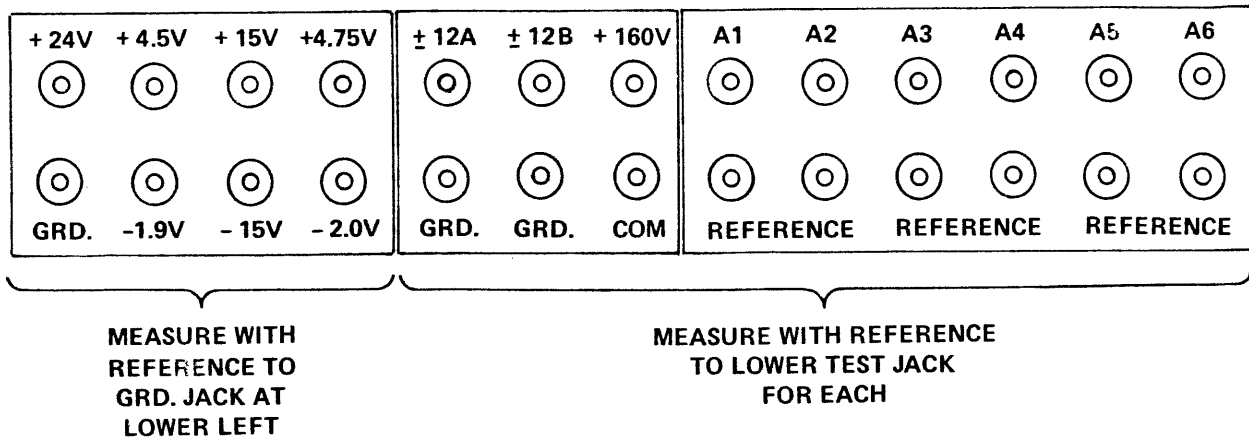

Figure 4-8. Logic Power Supply Test Jacks
- d. Insert the DVM probes into the + 160V and COMMON test jacks on the front of the supply. Refer to figure 4-8.